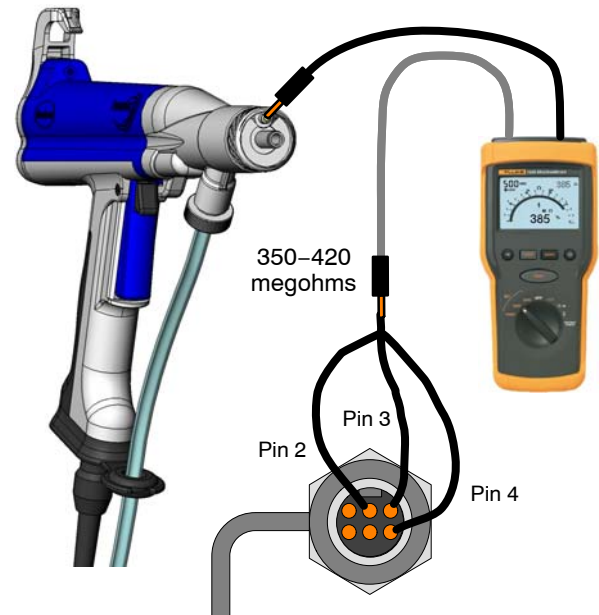

Figure 12 Resistance Test – Cable End to Spring Plunger
1. See Figure 12. Remove the nozzle.